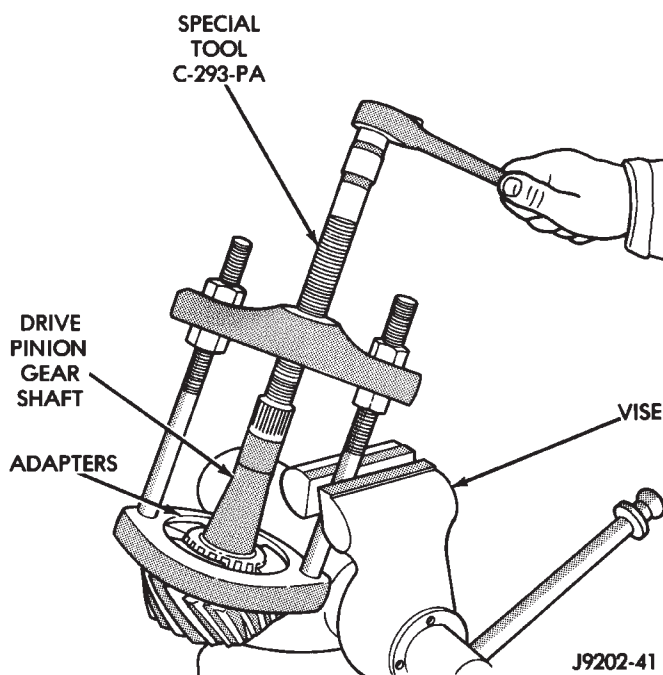

Fig. 46 Inner Bearing Removal
(11) Remove the rear pinion bearing from the pinion with Puller/Press C-293-PA and Adapters C-293-39 (Fig. 46).